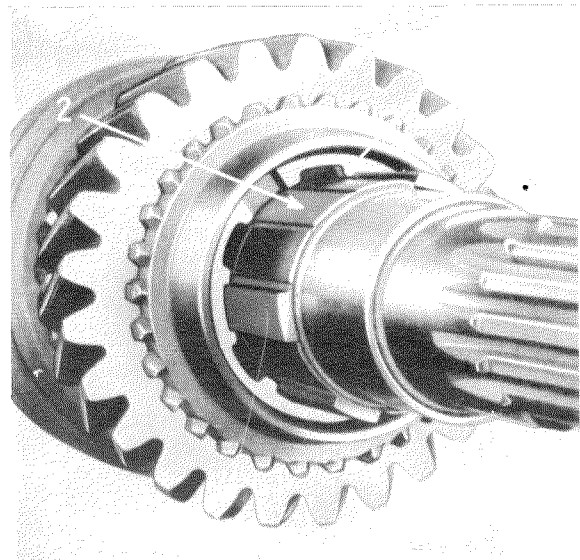

Fig. 26 — 4/52
97. Turn the stop ring in such a way that the splines of the stop ring and the splineways (2) of the main shaft index (Fig. 26 — 4/52).